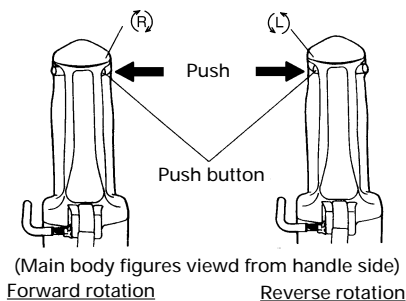

Fig. 19
- The bit rotates clockwise (viewed from the rear side) by pushing the R-side of the push button. The L-side of the push button is pushed to turn the bit counterclockwise. (See Fig. 19).
- (R) and (L) marks are indicated on the main body.